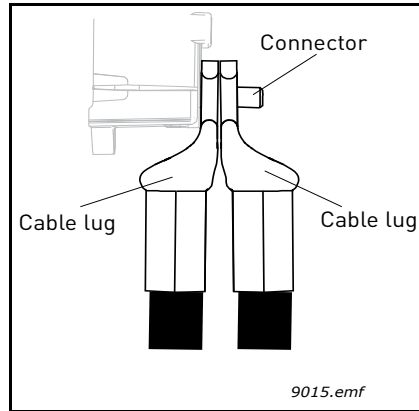

Figure 43. Placing two cable lugs on top of each other
- **NOTE:** If you use several cables on one connector observe the position of cable lugs on top of each other. See Figure 43 below.